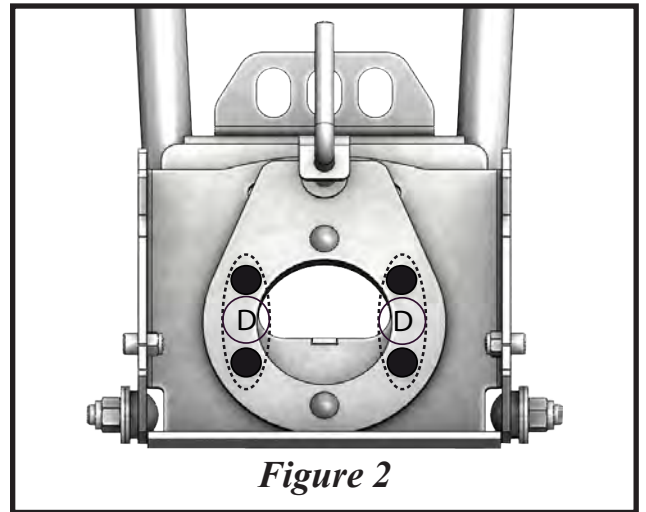

Figure 2
1. Remove the four 3/8" carriage bolts (A) as shown in **Figure 2**.